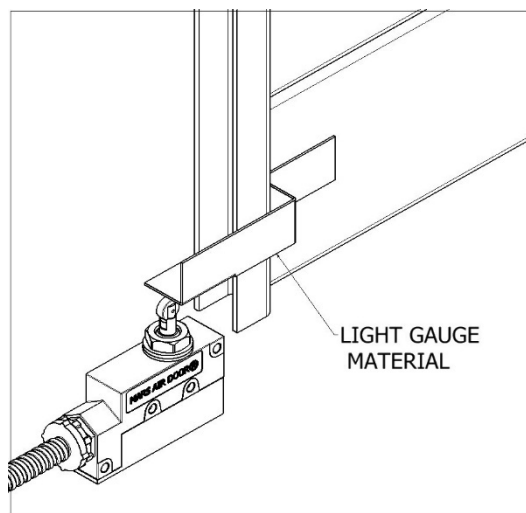

FIG. 2
2. Use light gauge materials when field fabricating brackets to activate and deactivate the door limit switch(es). (FIG. 2) Figure 2 also shows the typical installation of the combination plunger/roller type NEMA 1 door limit switch, for all non-hinged style doors.